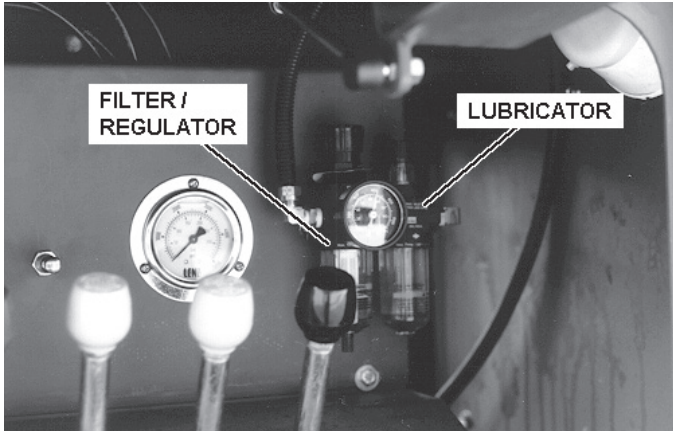

FIGURE 5.1
- (a) The miniature filter/regulator and miniature lubricator are installed on the aft bulkhead of the left rear control station so that air flows in the direction of the arrow on body. See Figure 5.1.